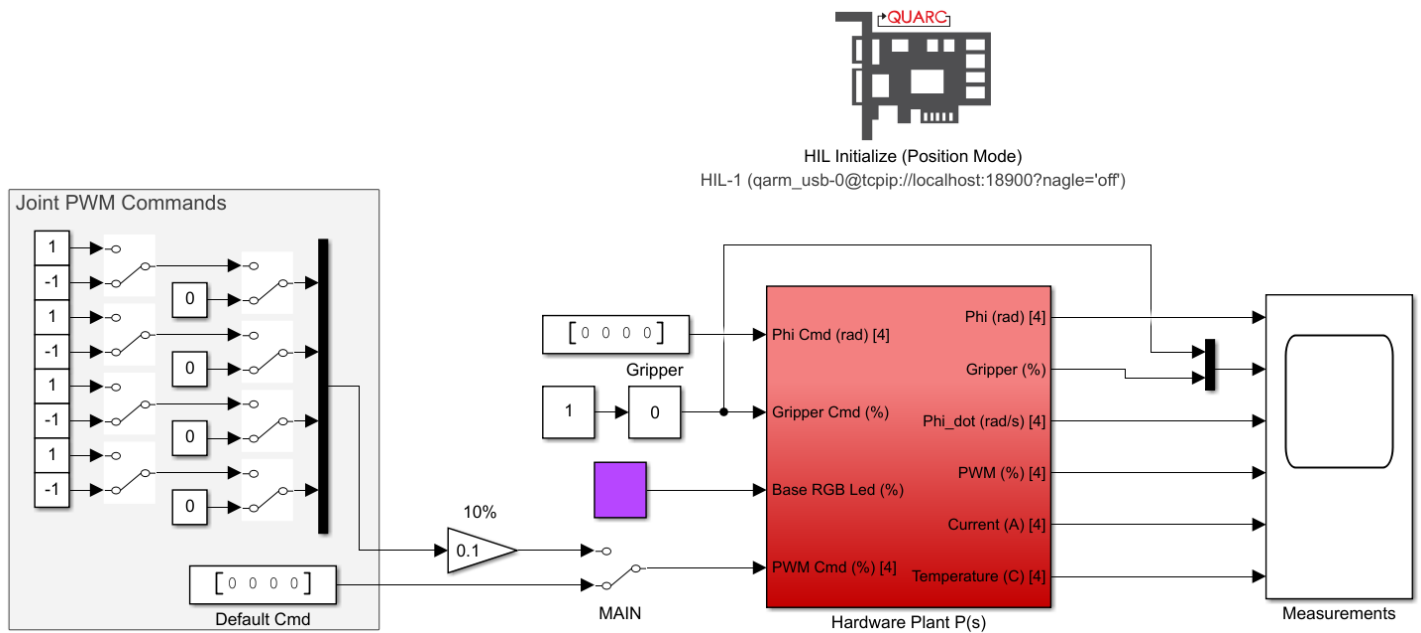

Figure 3: Simulink model that controls the QArm in PWM mode
1. Open the Simulink model BasicIO\\_pwm\\_mode.slx (Figure 3). You will use this model to command PWM signals to each joint of the manipulator, causing the joint controllers to output a proportional voltage ranging between -12V and 12 V.